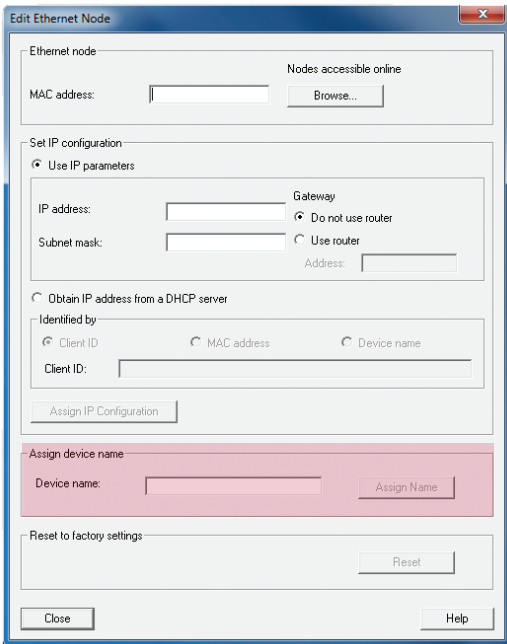

Fig. 22: Select the MTS R-Series Profinet sensor (step 3) (source: Siemens)
3. Assign a device name and confirm your entry with “Assign name” (Fig. 22).
3. Double-click to select the sensor and enter the previously defined name into field "Device name" (Fig. 22). Press "OK" to confirm your entries.